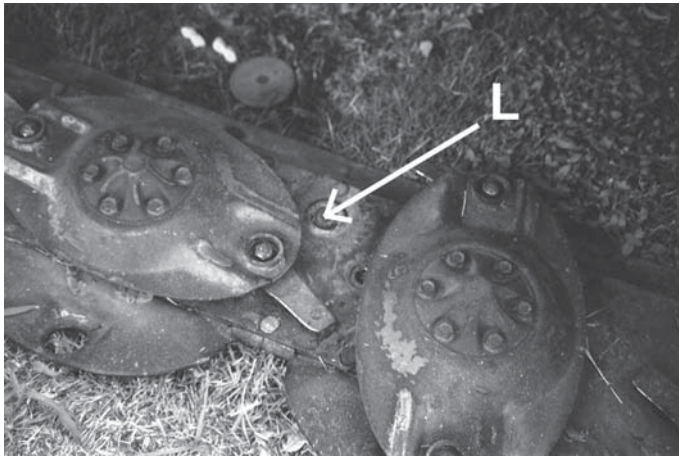

Figure 14
16. To check the oil level, tilt the cutter bar up 90 degrees and remove Plug(L) . Add SAE EP90 gear lube, or equivalent, at opening until oil flows from opening . Reinstall plug. Use thread sealant on plug threads. (See **Figure 14 & 15**).